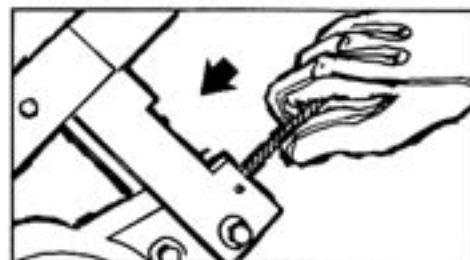

Figure 3
3. While in the fall-arrest mode, test the cable retraction of the Recovery Unit by pulling out at least 4 feet (1.2m) of the cable and allowing it to retract slowly back into the unit housing, keeping tension on the cable. (See Fig. 3)